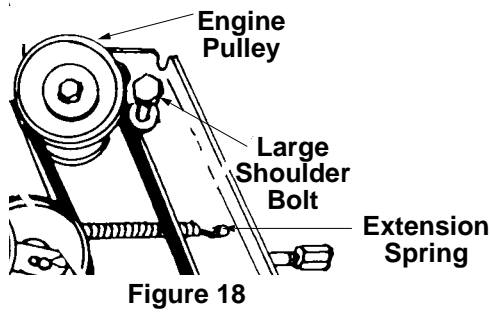

Figure 18
3. Remove the large shoulder bolt and washer on the left hand side of the engine pulley with an adjustable wrench. Refer to Figure 18.
1. Unhook extension spring from the belt cover plate. See Figure 18.
9. Reassemble the large shoulder bolt and lock washer as shown in Figure 18.